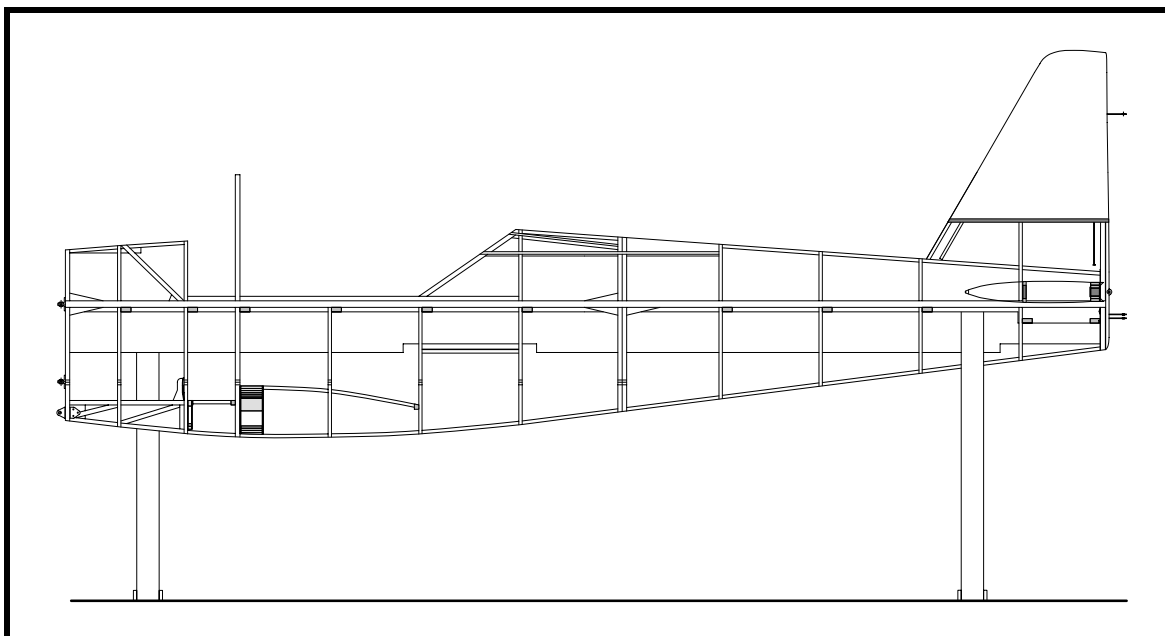

Figure 41
- ❑ Glue the left 20x10 stringer in place. See Figure 41.